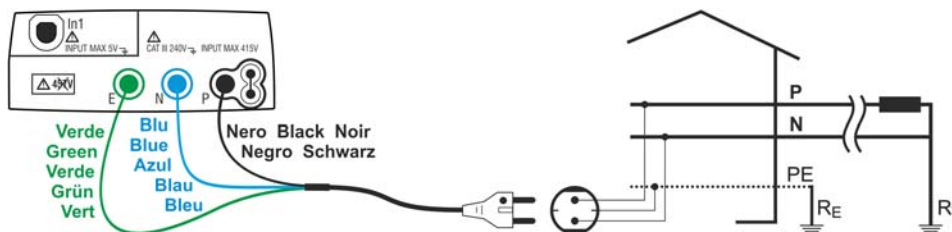
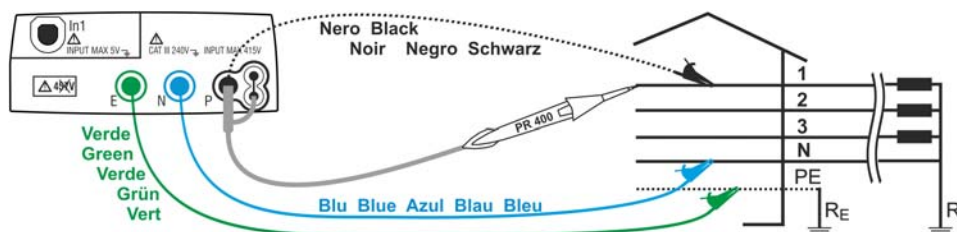
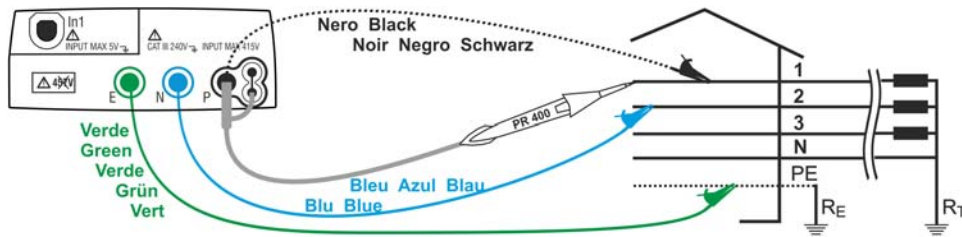

Fig. 15: Instrument connection for 230V single-phase or double-phase P-N line impedance and P-PE fault loop impedance measurement through shuko cable
Fig. 17: Instrument connection for 400V + N + PE three-phase P-N line impedance and P-PE fault loop impedance measurement through single cables and remote probe
Fig. 18: Instrument connection for 400V + N + PE three-phase P-P line impedance measurement by means of single cables and remote probe
- Insert the green, blue and black connectors of the three-pin shuko cable into the corresponding input leads E, N and P of the instrument. As an alternative, use the single cables and apply the relevant alligator clips to the free ends of the cables. It is also possible to use the remote probe by inserting its multipolar connector into the input lead P. Connect the shuko plug, the alligator clips or the remote probe to the electrical mains according to Fig. 15, Fig. 16, Fig. 17, Fig. 18 and Fig. 19.